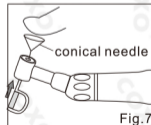

Fig.7
- 2) Remove the saw blade: will be dedicated to the head of the conical needle at the center of the hard part of the press, remove the saw blade (Fig.7).